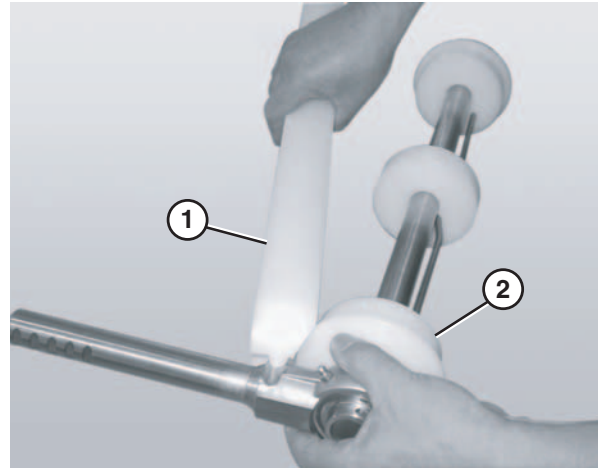

Figure 79
- Slide the bearing shaft assembly (**Figure 79, item 2**) off the idler shaft.
- Remove the guard bar (**Figure 79, item 3**).
- Slide the pucks (**Figure 79, item 1**) off the idler shaft.